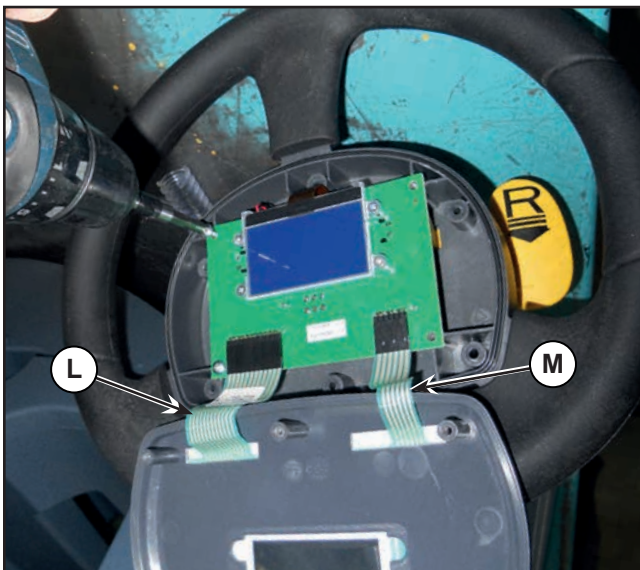

Figure 19:
2. Disconnect the flat connections (L, Figure 19) and (M) from the Display controller (EB2).